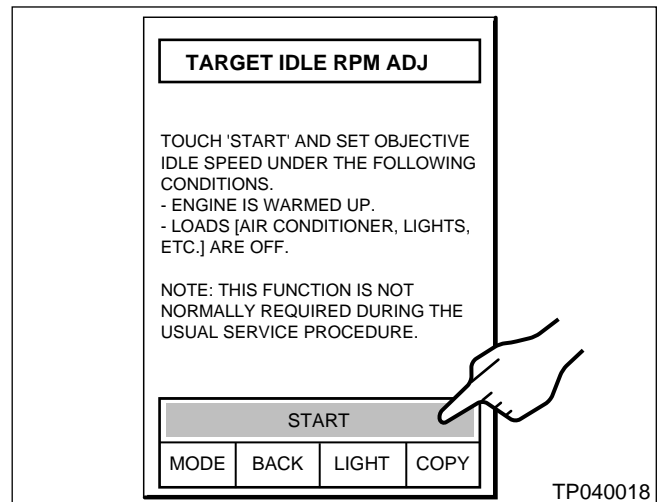

Figure 7
2. Press **START** on the “TARGET IDLE RPM ADJ” screen. See Figure 7.